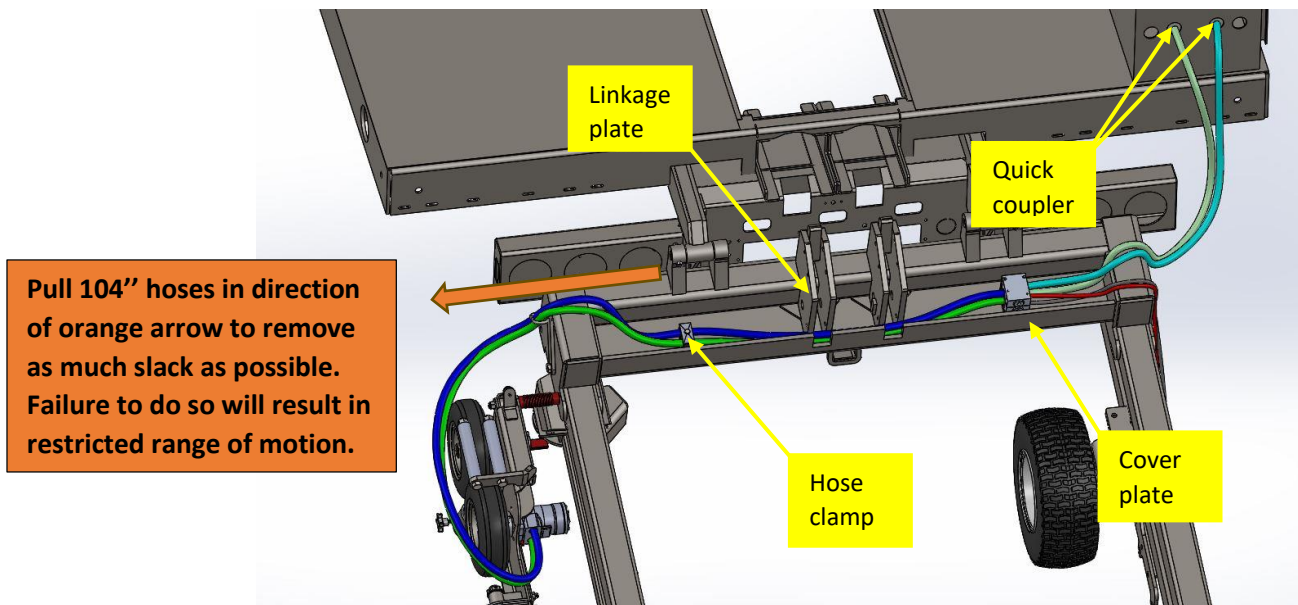

Figure 9
6. Install one half of the hose clamp (**ITEM 12**) onto the driver side weld-on clamp plate. Connect the 104-inch hose (**ITEM 3 - green**) to the bottom port, where the check valve should be, on the hydraulic block. Route the hose between the linkage plates and the cover plate, through the saddle of the hose clamp furthest away from the cab, and then through the hose bracket to the motor port closest to the ground. Connect the other 104-inch (**ITEM 3 - blue**) hose to the remaining hydraulic block port. Route the hose following the same route as the first 104-inch hose but to the hose clamp saddle closest to the cab, and to the remaining motor port. Remove the slack between the hose clamp and the hoses connected to the hydraulic blocks and install the other half of the hose clamp (**ITEM 12**) onto the driver side clamp, install hose clamp cover plate and use the 5/16"x1 3/4" bolt (**ITEM 21**) and 5/16" lock washer (**ITEM 22**) to hold the hoses in place. **Figure 9**